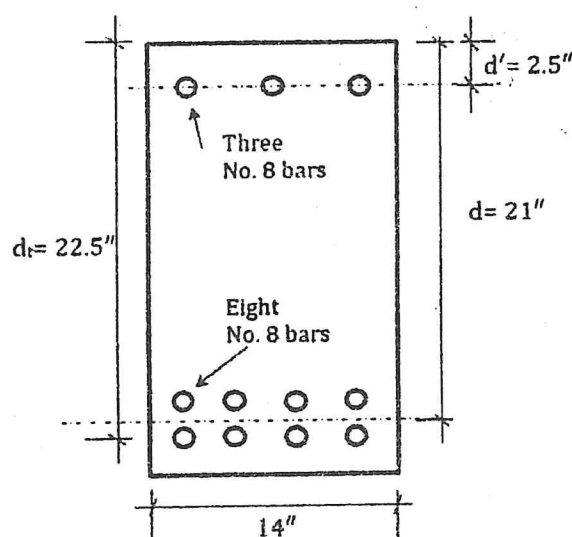

Fig. 1
- (b) A rectangular RC beam as shown in Fig. 1 measure 14 in. wide and has an effective depth of 21 in. Tension steel consists of Eight No. 8 bars in two layers ($d = 21$ in., $d_t = 22.5$ in.) and compression steel consists of Three No. 8 bars located 2.5 in. from the compression face. Find the nominal and design moment capacities of the beam according to the ACI/BNBC code? Check for yielding of compression steel and ϵ_t .